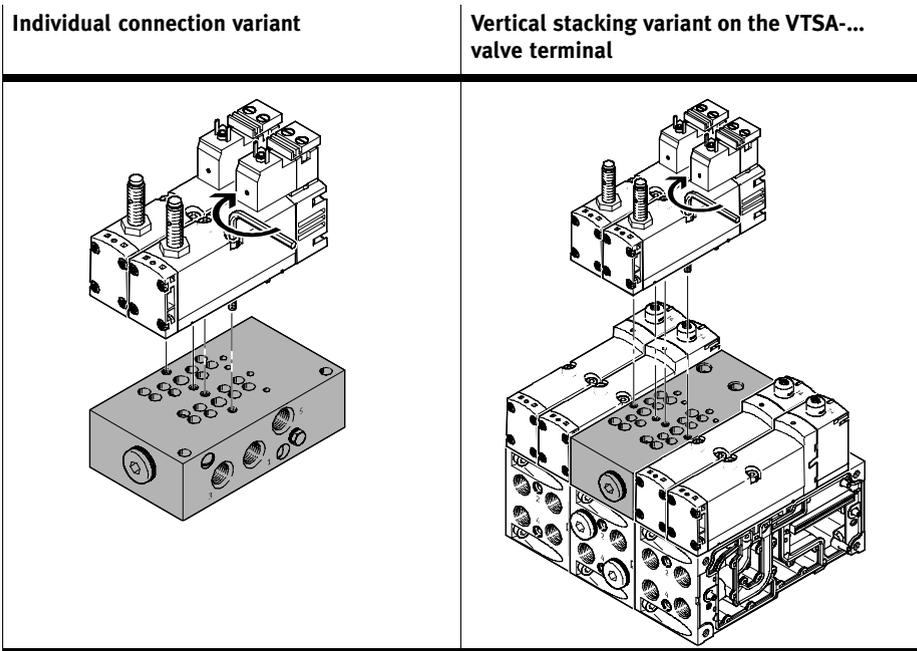

Fig. 14: Mounting the solenoid valves on the control block
5. Place the solenoid valve on the control block (see Fig. 14) and tighten the two mounting screws with an Allen key SW3. Comply with the permissible torque $2 \text{ Nm} \pm 10 \%$.